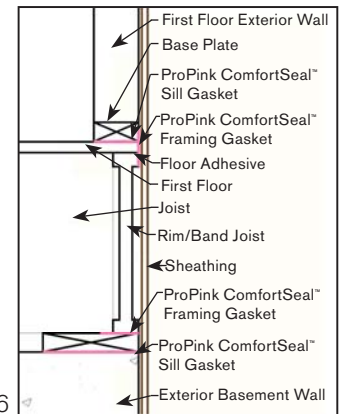

Fig. 6
**Option 3: Combination of exterior surface application and rim/band joist juncture (See Fig. 6)**